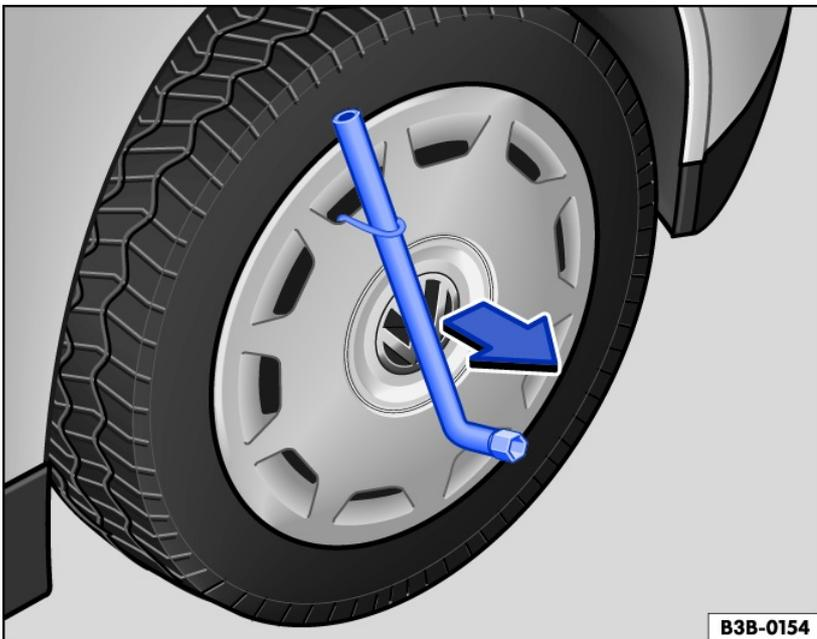

Fig. 205 Remove the full wheel cover.
- Slide the lug wrench through the wire bracket *fig. 205* and pull the full wheel cover in the direction of the arrow.